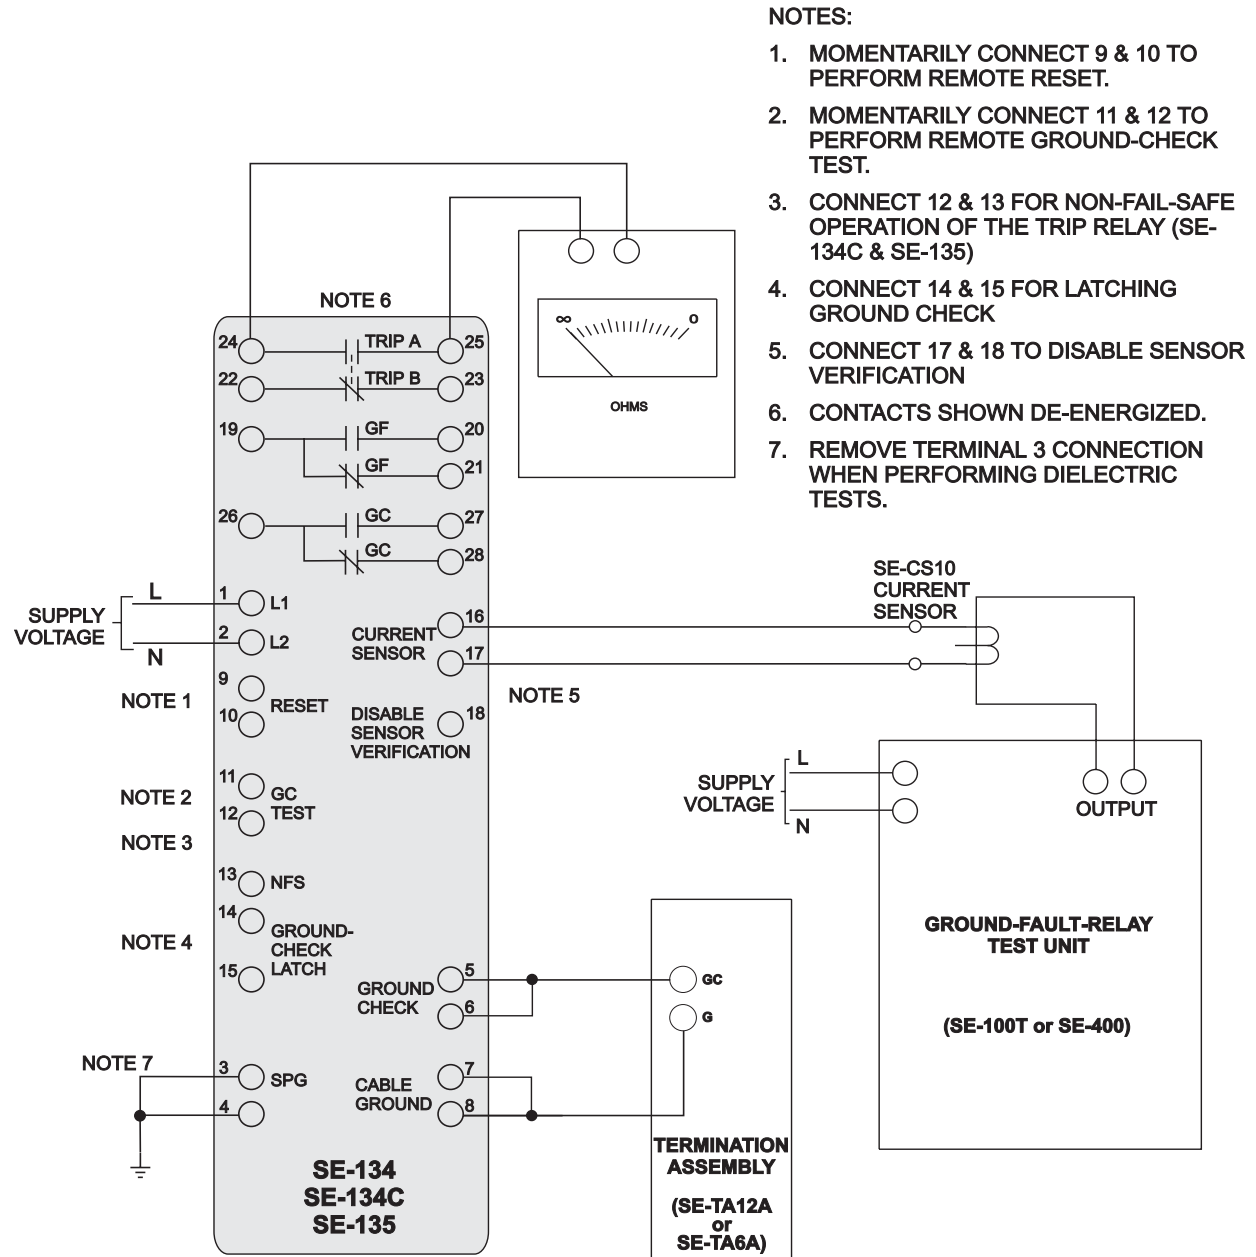

FIGURE 1. GROUND-FAULT GROUND-CHECK MONITOR TEST CIRCUIT
- Connect the monitor, current sensor and termination device as shown in Figure 1. Connect terminals 14 and 15 for latching operation. With supply voltage applied, the POWER, SENSOR, and VALID LED's will be on.
- Connect the monitor, current sensor and termination device as shown in Figure 1. With supply voltage applied, the POWER, SENSOR, and VALID LED's will be on.
- Connect the monitor, termination device, current sensor, and ground-fault-relay tester as shown in Figure 1. With supply voltage applied, the POWER, SENSOR, and VALID LED's will be on.
- The GF TRIP LEVEL (A) refers to primary current. Inject current through the current-sensor window. Do not inject current directly into the monitor. The monitor will trip when a current exceeding the GF TRIP LEVEL (A) is injected through the current-sensor window for a time exceeding the GF TRIP TIME (s) setting. The trip contacts (terminals 22-23 and 24-25) and the ground-fault indication contacts (terminals 19-20 and 19-21) will change state. The GROUND FAULT TRIP LED will be on. Ground-fault trips are latched.